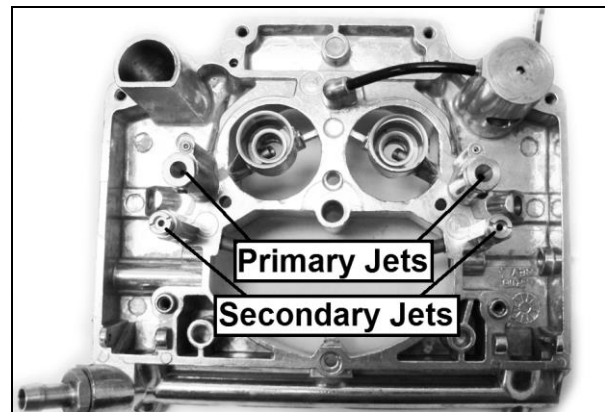

**Figure 23**
5. Disconnect the accelerator pump rod from the pump arm by carefully removing the c-clip (Fig. 23).